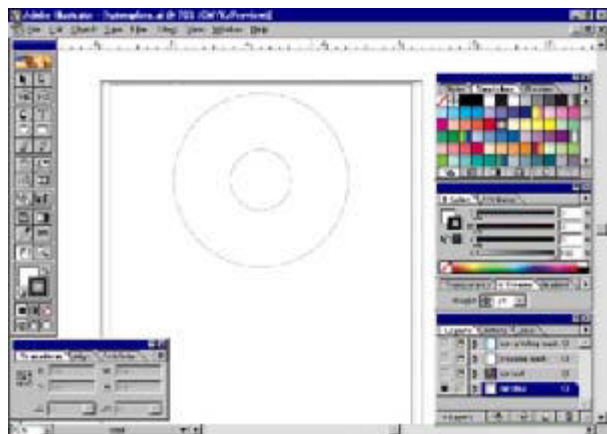

Fig. 5-1 Two concentric circles on the Non Printing Mask layer
- 5) Create concentric circles of the diameters to be used and position them on the page approximately as shown in Fig. 4-1, "CD Print Placement". Use one-point lines and no fill. See Fig. 5-1.